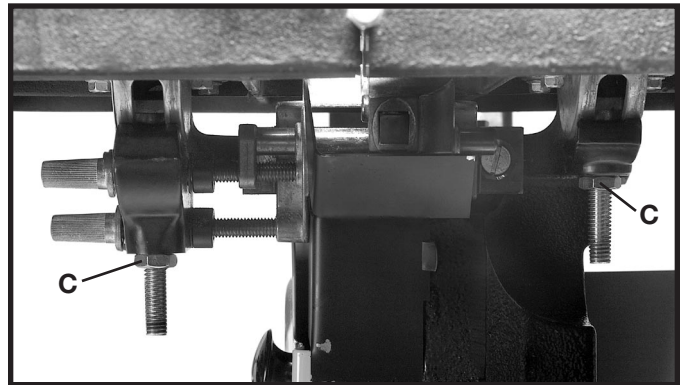

Fig. 28
2. Thread a 7/16" jam nut (C) Fig. 28 onto each table stud and tighten securely.